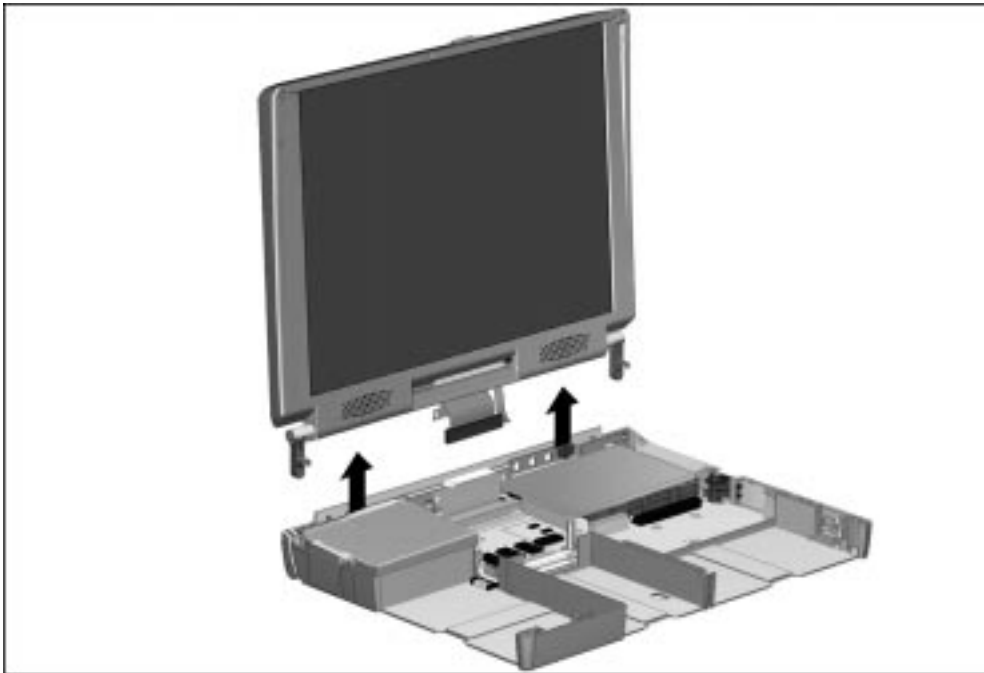

Figure 5-51. *Removing the Display Assembly*
15. Lift the display assembly straight up from the computer (Figure 5-51).